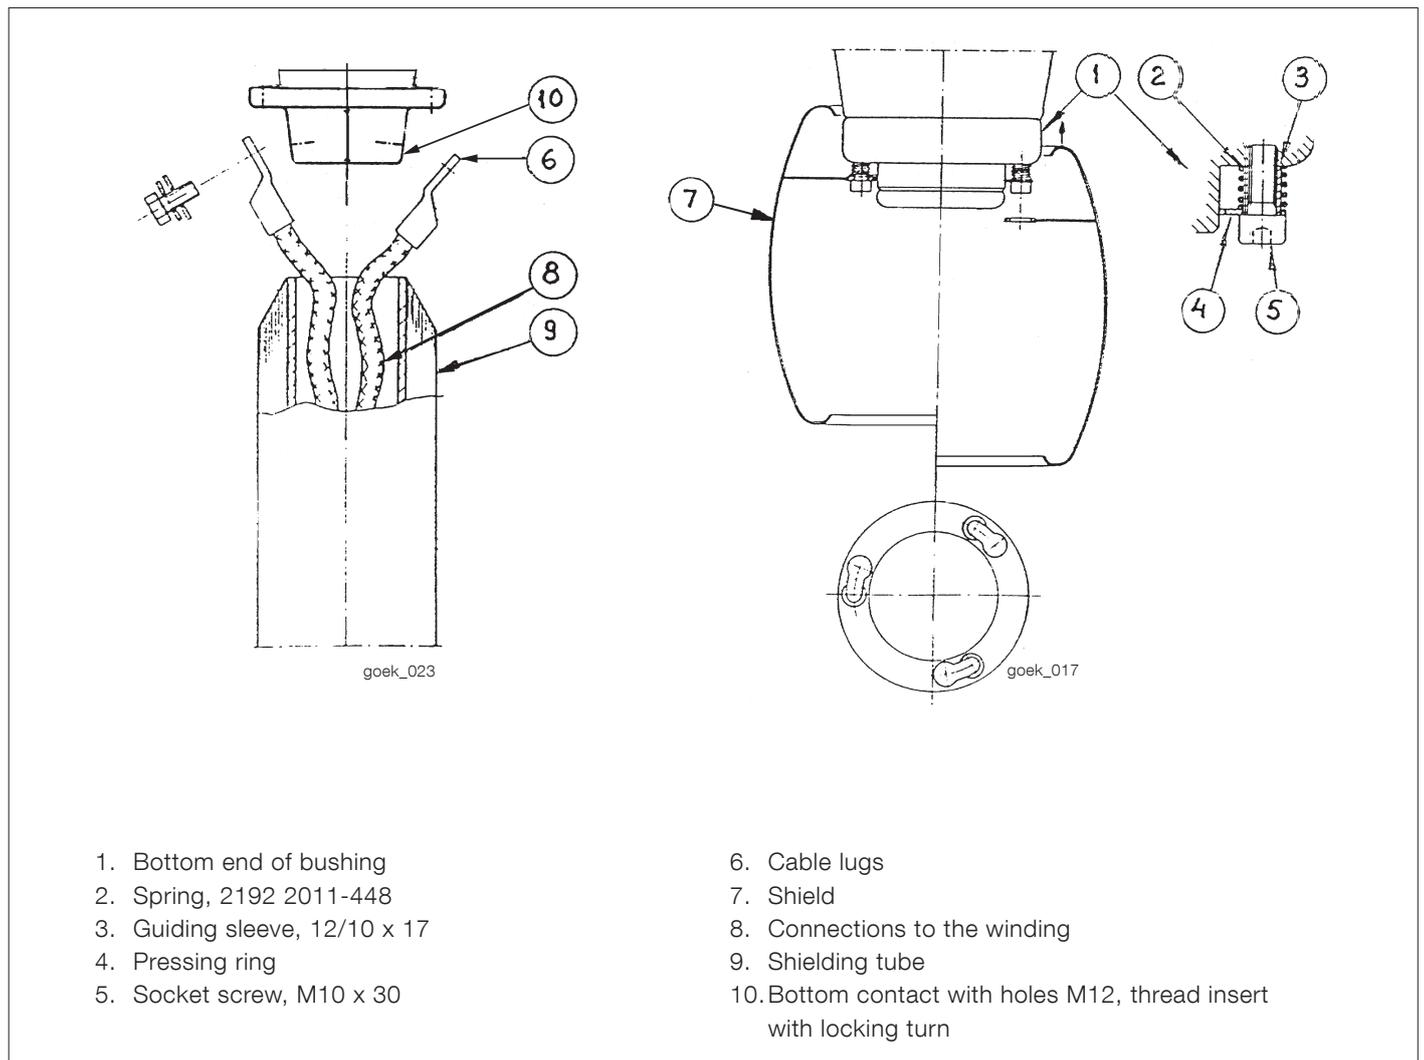

Fig. 18. Connecting to bottom contact and mounting of shield.
7. Try to turn the shield back somewhat to check that the heads of the screws are in the locking position, see Fig. 18.